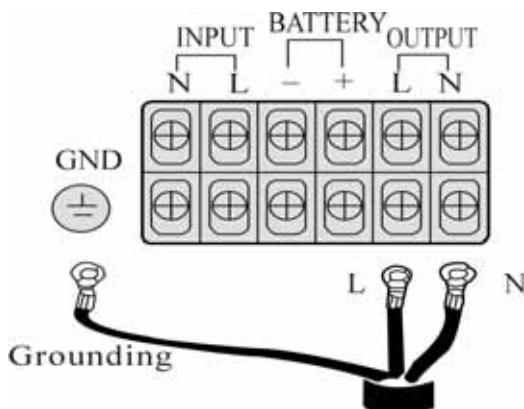

Figure 15
2. Position and way of connection, refer to figure 15.